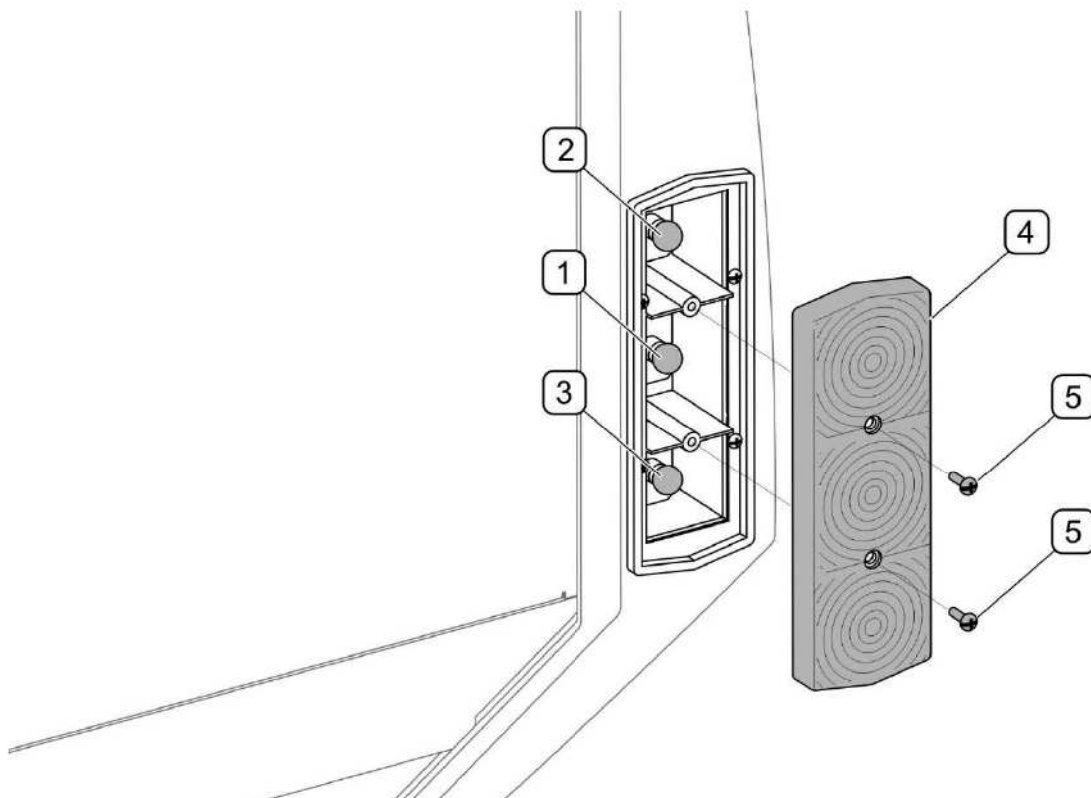

FIG. 5.29 Replacing bulbs in the lamp
After connecting to 7-pole socket on the tractor, check operation of the lighting system. In case of bulb burnout, unscrew screws (5) that secure lamp lens (4) and replace appropriate bulb (FIG. 5.29).